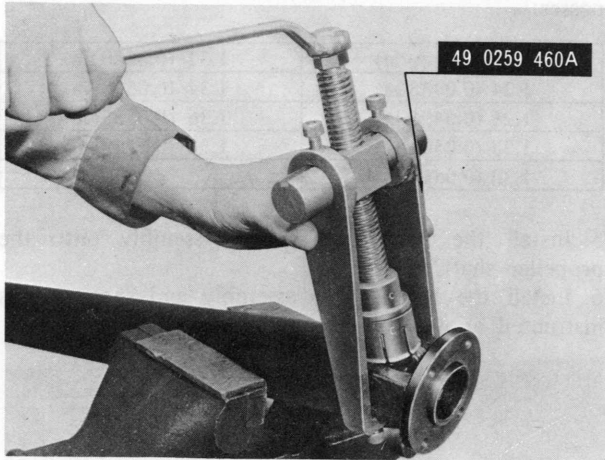

Fig. 8-5 Removing bearing cup
4. Position the **universal joint replacer** (Part No. 49 0259 460A) as shown in Fig. 8-5 and screw in the center bolt until the bearing cup protrudes approximately 8 mm (0.32 in) out of the yoke.